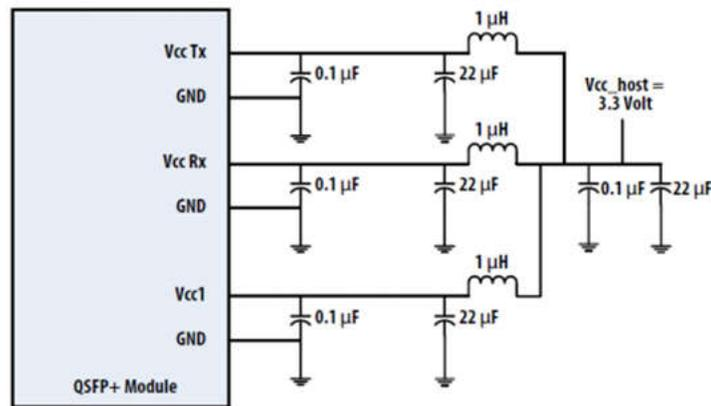

Figure4. Recommended Power Supply Filter
- VccRx, Vcc1 and VccTx are the receiving and transmission power suppliers and shall be applied concurrently. Recommended host board power supply filtering is shown in Figure 4 below. Vcc Rx, Vcc1 and Vcc Tx may be internally connected within the module in any combination. The connector pins are each rated for a maximum current of 1000mA.